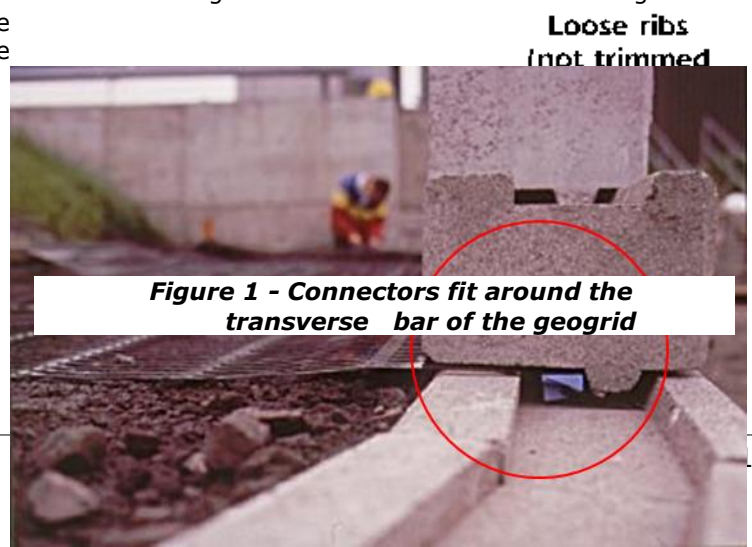

Figure 1 - Connectors fit around the transverse bar of the geogrid
7. Place the prepared end of the geogrid over the rebate in the block and locate the moulded connectors around the transverse bar (Figure 1). Ensure that each aperture of